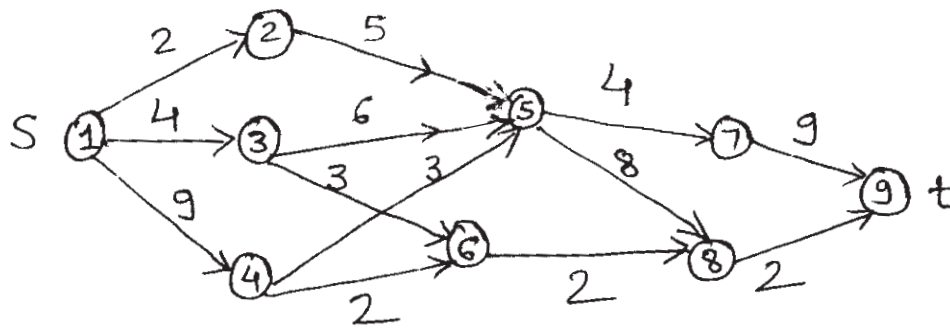

Fig. 1.
- Q3)** a) Find a minimum-cost path from s to t in the multistage graph of Fig.1. Do this using the forward approach. [8]